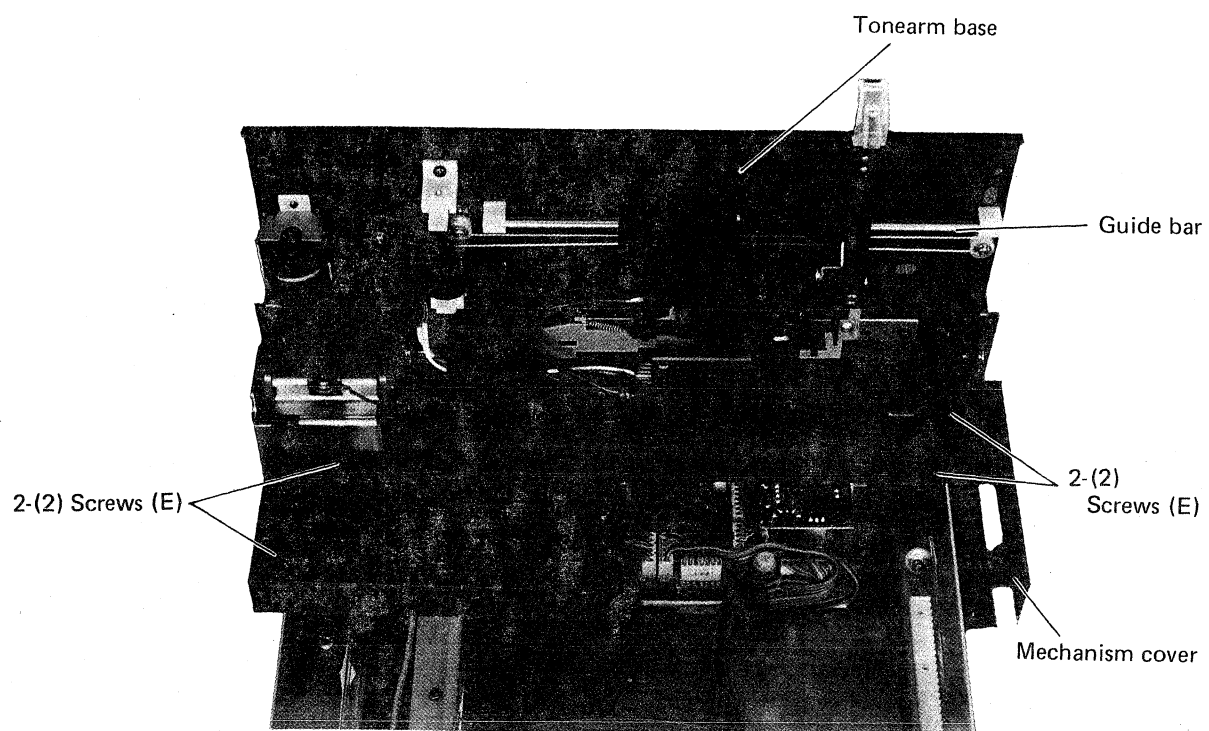

Fig. 3
- (2) Pulling front edge of the tonearm chassis upward by hand, remove 4 pcs. of screws (E) from top of mechanism cover. (See fig. 3)